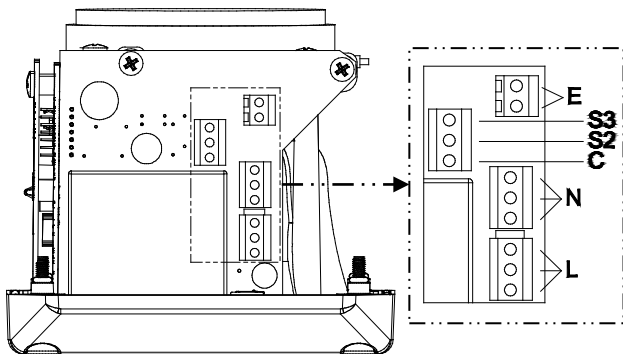
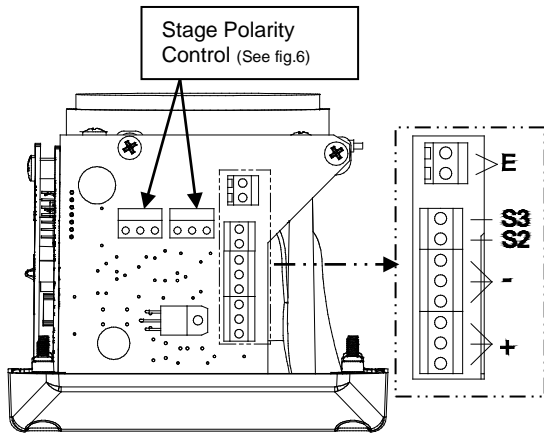

Fig. 5 AC Terminals
Fig. 8 DC Terminals
- Fit an M20x1.5 suitably rated, certified cable gland or conduit entry into the hole in the enclosure and connect the field wiring to the appropriate alarm horn terminals as shown in section 9 and fig 8 (DC) or section 8 fig 5 (AC) of this manual. The power supply terminals are duplicated so that alarm horns may be connected in parallel and for DC units only an end of line monitoring resistor may be fitted. If the second M20x1.5 entry is not used a suitably rated, certified stopping plug must always be fitted.
Stage one (S1) operation: Simply connect the supply voltage to the L and N supply terminals, (see fig. 5).
Stage one (S1) operation: Simply connect the supply voltage to the + and - supply terminals, (see fig. 8).
Internal earthing connections should be made to the internal earth terminal on the PCBA, (please see fig 8 for DC, fig 5 for AC). The earth conductor should be at least equal in size and rating to the incoming power conductors. The internal earth bonding wire connects the PCBA earth terminal to the internal earth terminal in the enclosure back box.